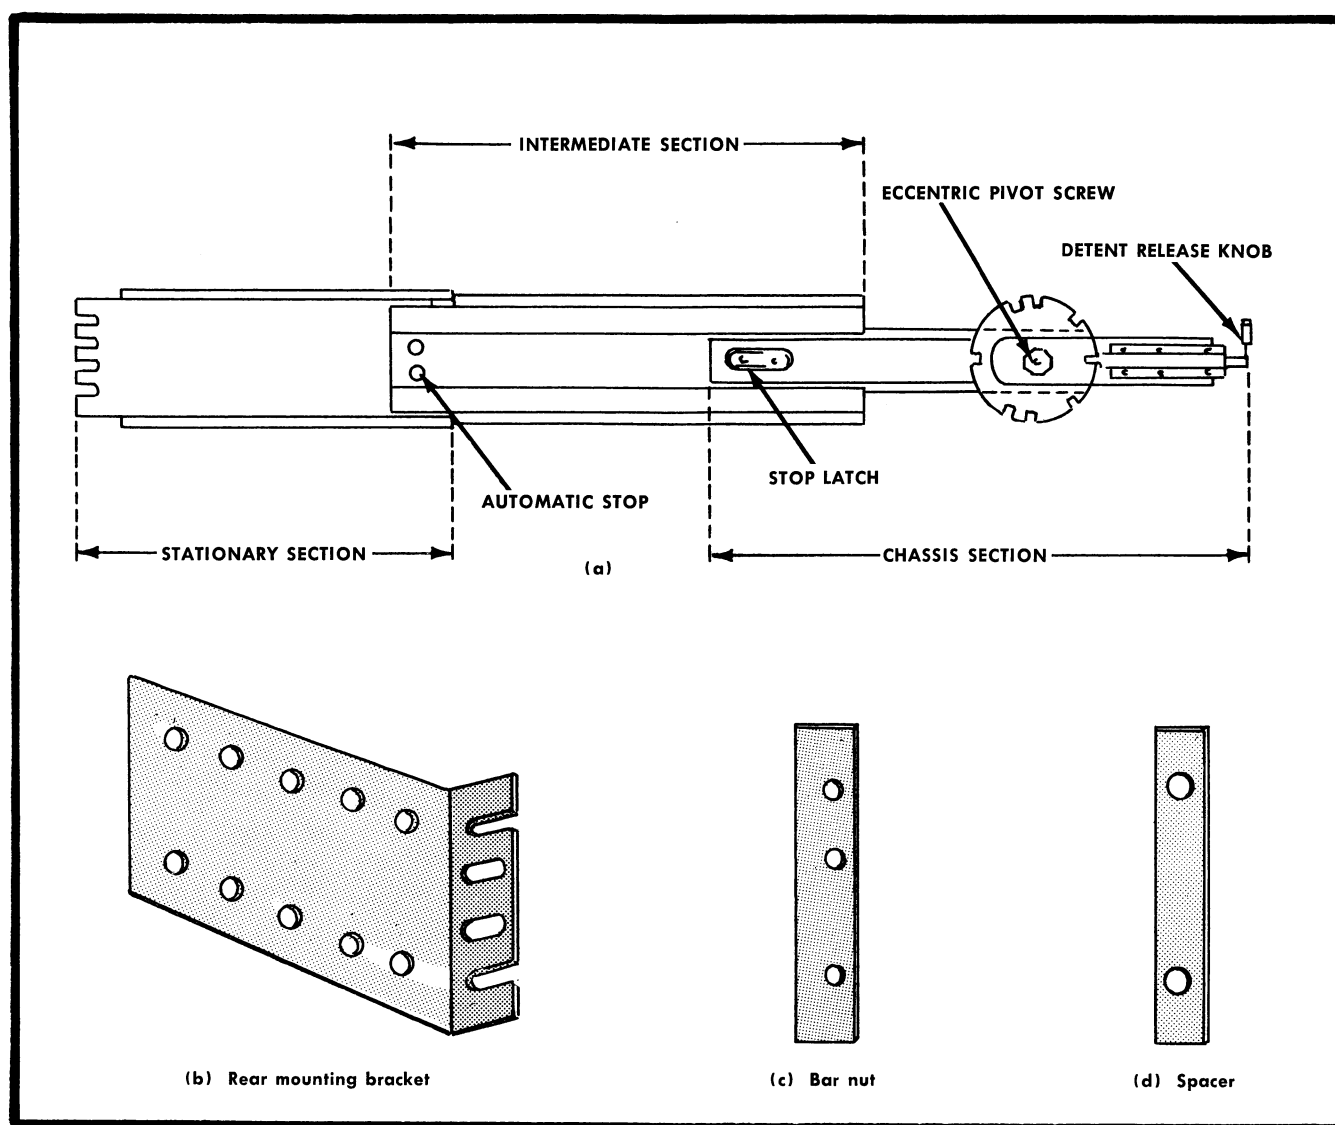

Fig. 2-3. Chassis-Trak slide assembly.
Fig. 2-3 shows the parts that make up one set of Chassis-Trak slides. The Type RM567 is shipped with the chassis sections installed. The stationary and intermediate sections are a matched set and should be installed and treated as such.
9. **IMPORTANT**—Before mounting the Type RM567 in the cabinet rack, check the alignment of the Chassis-Trak chassis sections. They should be parallel with the bottom of the instrument. The eccentric pivot screw (see Fig 2-3) moves the end of the chassis section up or down in relation to the instrument. Loosen the nut inside the frame and adjust the pivot screw until the slide is parallel to the bottom of the instrument. Hold the pivot screw in this position and tighten the nut.
latches on both chassis sections (see Fig. 2-3) and push the instrument into the cabinet rack. Align the front-panel Securing Screws with the front-rail holes before pushing the Type RM567 completely into the rack.
detent release knobs (see Fig. 2-3) and tilt the instrument in the direction desired. The instrument can be locked in any one of seven positions—normal, or 45°, 90°, or 105° above and below normal.